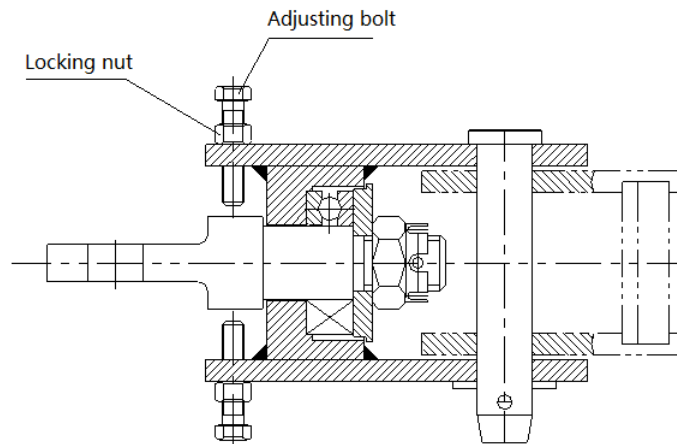

Fig. 4-42 Releasing the anti-twist device
- When hoisting ropes are non-rotating ones, the anti-twist device shall lock tightly the locking screws (8) (see Fig. 4-42) while the tower crane is in service.
- When hoisting ropes are anti-rotation ones, the anti-twist device shall unlock the locking screws (8) when the crane is in service.